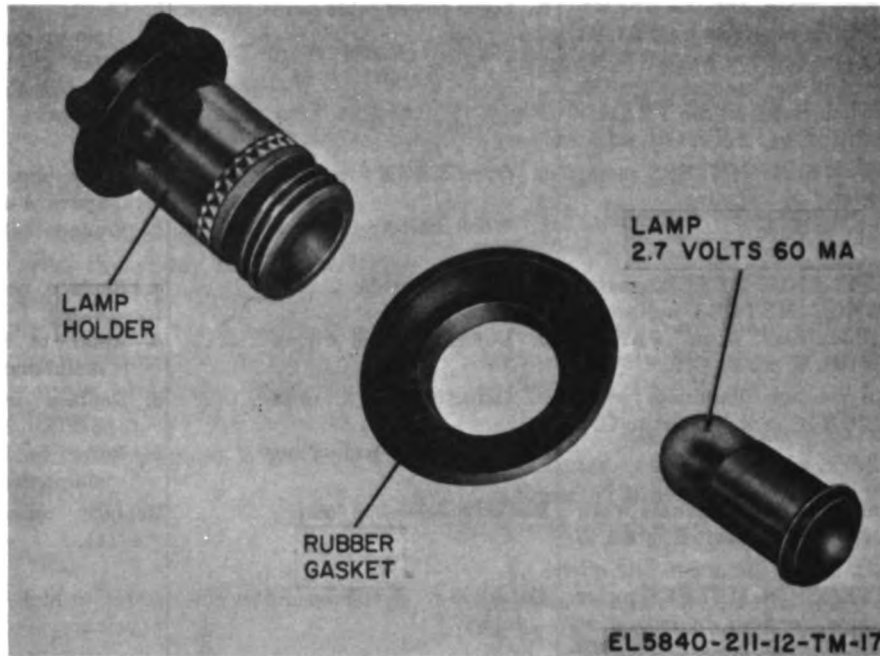

Figure 1-3. Panel lamp and associated components.
h. Place the control handle in the clip (fig. 1-3) on the tripod leg.